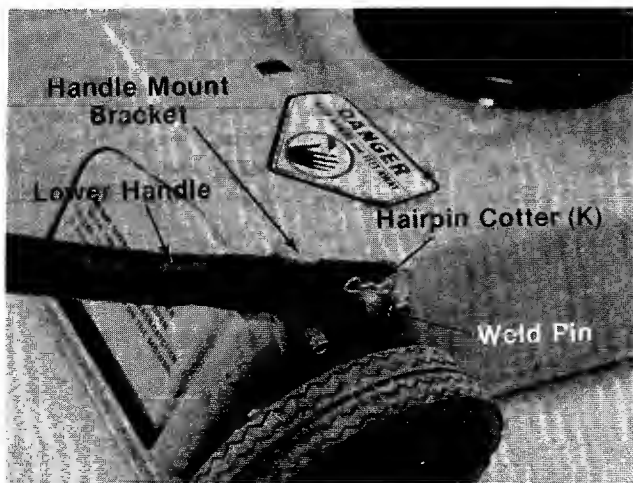

FIGURE 3.
← 3. Place lower handle in position over weld pins in handle mount brackets on deck. Secure by placing two hairpin cotter (K) in inner hole on weld pins. See figure 3.